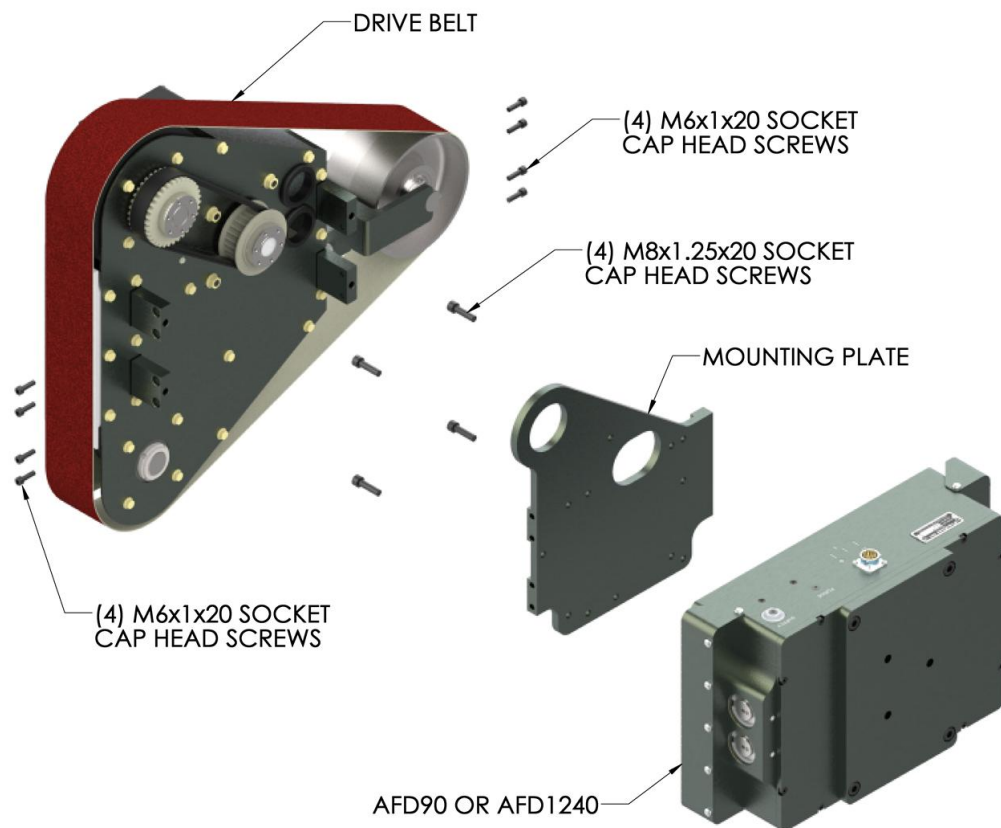

Figure 1: Mounting the RBS372 to an AFD
The RBS372 Robotic Belt Sander is designed to be mounted on an AFD90/1240 adjustable force device. To mount the RBS372 to an AFD: first detach the Mounting Plate by removing the eight (8) M6x1x20 Socket Head Cap Screws securing it to the RBS. The Mounting Plate has three (3) sets of four (4) holes for mounting directly to the AFD90/1240. Each of the four (4) hole sets allows the RBS to be oriented in three different positions relative to the Carriage travel. Position the Mounting Plate on the AFD Carriage and secure it using four (4) M8x1.25x22 Socket Head Cap Screws. Finally reattach the RBS to the Mounting Plate using the eight (8) M6 fasteners previously removed (See Figure 1). Tighten all the fasteners to the torque specified in Section 5.0. If the PushCorp supplied Mounting Plate is not used, the customer is responsible for providing a Drive Belt guard. **Do not operate the RBS without a Drive Belt guard.**